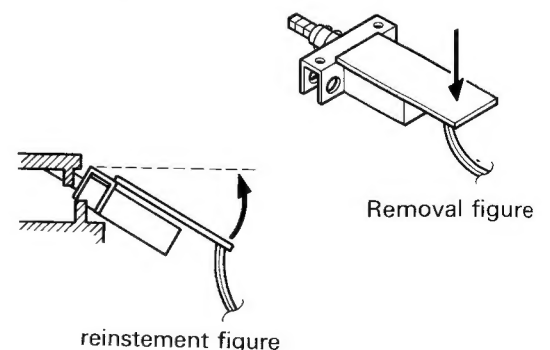

Fig. 5
1. Remove the screw ⑥.
■ Removal of Power Switch (See Fig.5)